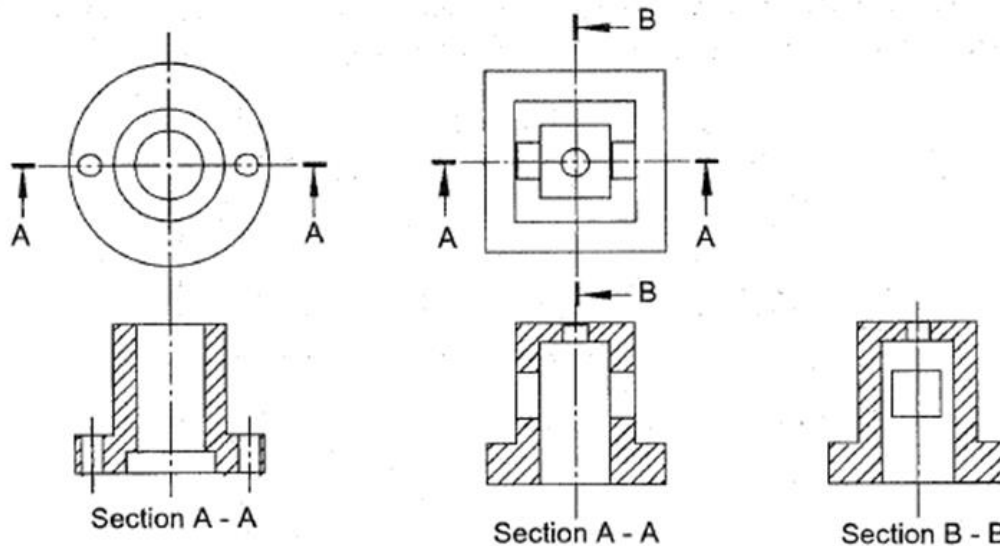

Fig PF-4-1-23
- Any area of the object that has been cut is indicated by hatching (**Fig. PF-4-1-23**).